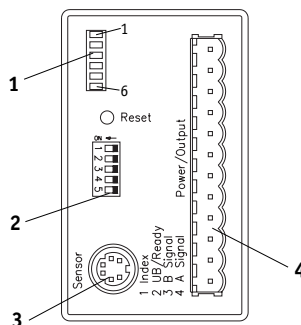

Fig. 4: AE510's front
Translation module AE510 converts the magnetic length information supplied by a magnetic sensor into incremental output signals. These signals are issued speed-proportionally. **Please remember that even when the system stands still, there can be impulses of  $1\mu\text{s}$**  (resulting from the internal interpolation method). The pulse distance can be changed by adjusting the DIP-switch (see Fig.4). This change will influence the maximum travel speed directly (see Tab.1).
During standard operation the status of the ready signal is "high". As soon as the max. admissible travel speed or the max. admissible gap between sensor and tape are exceeded, the error LED (fig. 4) comes on. No more output signals will be issued and the status of the ready signal will change to "low" (fig. 1 and 2). With switched off error function, the system will no longer recognize an exceeding of the max. admissible sensor/tape gap whereas an exceeding of the max. admissible travel speed is still detected.
Either manually by pressing the reset key on the AE510's front (fig. 4) or automatically by activating the signal on the reset input, eg. by a ground switching contact or a proximity switch (NPN, N.O.). After initialization the green Power LED (6) comes on; when the magnetic sensor is moved LEDs LED 1 and LED 2 start flickering.